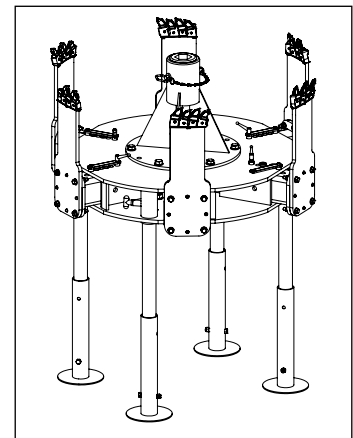

Figure 11. Six Shooter Resting On The Ground
8. While the Six Shooter remains suspended, attach the Supporting Legs. Lower the Six Shooter to the ground until it is supported by the legs as shown in Figure 11.